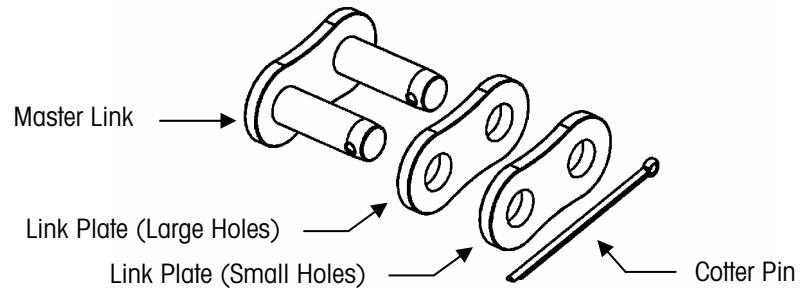

Figure 2-3: Master Link Assembly
12. Disconnect the two chains from the lift bracket. Remove the cotter pin from the master link that is connected to the 90° joint in each chain (see Figure 2-3). Then take apart the master link, using a C-clamp or similar device to press the master link through the link plates. Do not use a hammer or other tool to strike the master link. It could damage the link. Keep the chains and master links to install on the scale carriage.